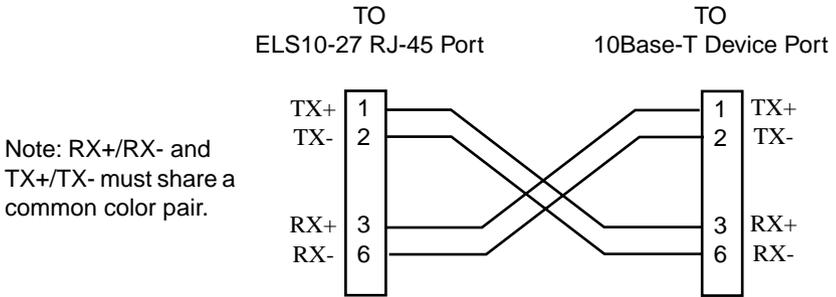

Figure 2-6. Cable Pinouts - (RJ45) Crossover Cable
- a. Verify that the RJ45 connectors on the twisted pair segment have the proper pinouts (Figure 2-6) and check the cable for continuity.